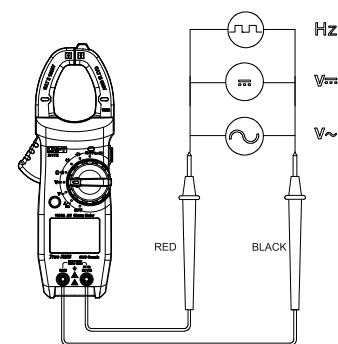

Figure 3
2. AC/DC voltage and frequency measurement (Figure 3)